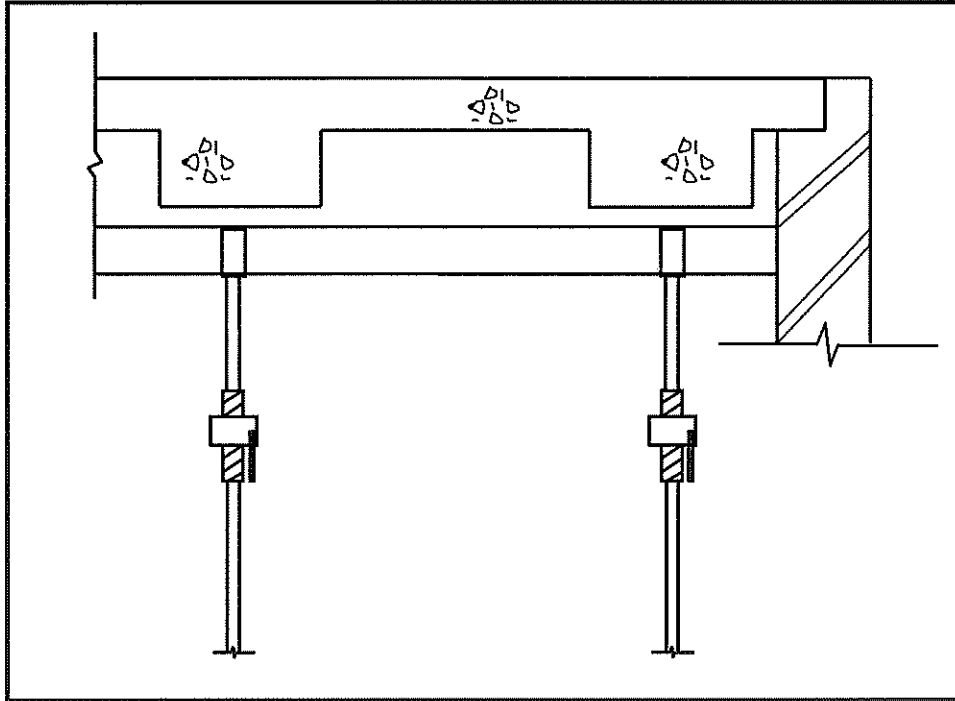

FIGURE 4.9
4.9 FIGURE 4.9 below shows the incomplete drawing of a vertical section through a concrete beam with floor slabs that is supported by a continuous head tree/bearer with adjustable props.